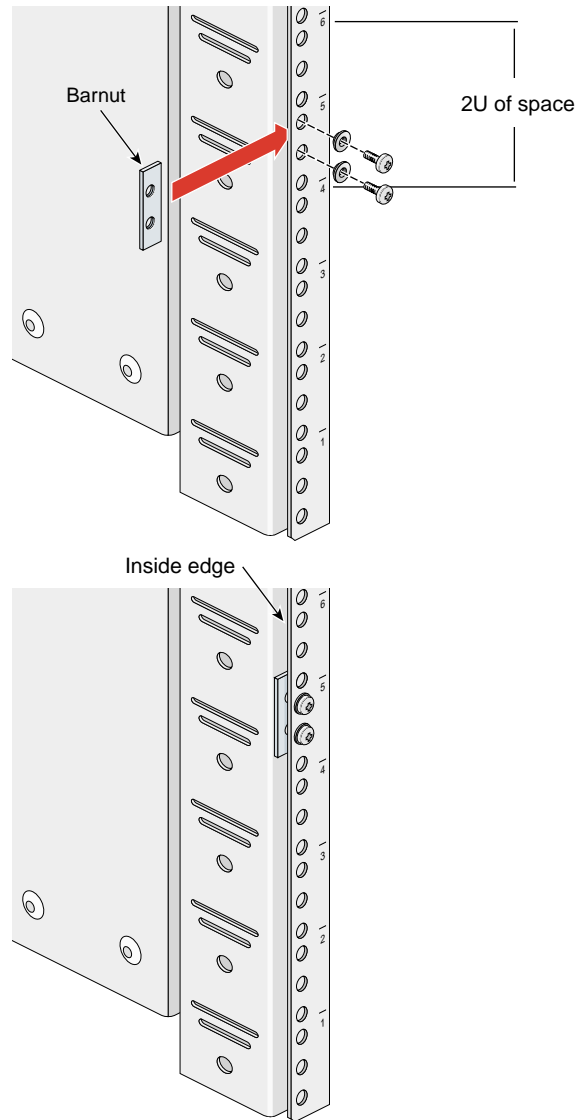

Figure 2-6 Placing the Barnuts on the Rack Rails
2. Place one of the barnuts inside the rack and align it with the second and third holes of the selected 2U of space (refer to Figure 2-6).
Note: The holes in the barnuts are not centered. The barnuts need to be placed in such a way that the holes are closest to the inside edge of the rack rails. Refer to Figure 2-6.